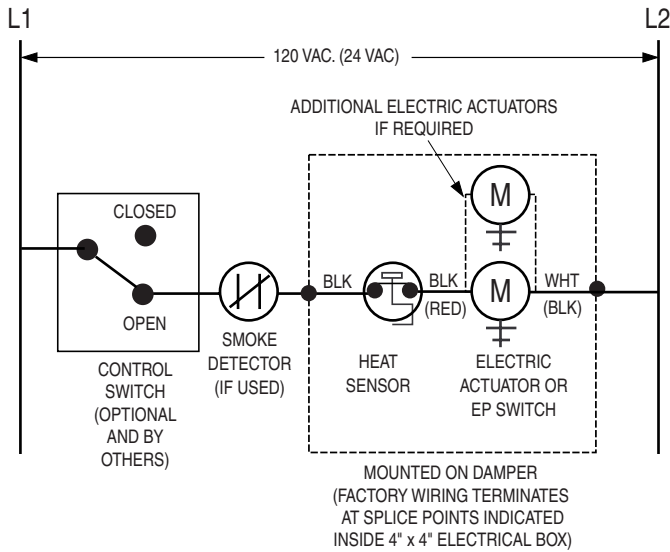

Figure 1. ERL Wiring
- One of the above connections on the top and bottom joints with flat drive slip connections on the side joints may be used for dampers up to 20" (508) in height.
- Duct diameters 22" (559) and smaller must use three #10 sheet metal screws equally spaced around the circumference.
4. **Damper/sleeve attachment:** Damper shall be secured to sleeve with 1/4" (6) long welds, 3/16" (4.76) steel rivets, 1/4" (6.35) dia. bolts and nuts, #8 sheet metal screws, or 3/16" (4.76) dia. buttonloks on both sides at 6" (152) on center and a maximum of 4" (102) from the corners of the damper on all four sides. For field assembled sleeves, the inner dimensions of the sleeve shall be equal to the outer dimensions of the damper. All joints between the damper and the sleeve shall be sealed with Dow-Corning 732 or G.E. RTV108 silicone sealant on one side only.
5. **Inner Retaining angles** shall be a minimum of 1 1/2" x 1 1/2" x 16 gauge (38 x 38 x 1.61). Secure the retaining angles to the sleeve with 1/2" (12.7) long welds, 1/4" (6.35) dia. bolts and nuts, 3/16" (4.76) dia. steel rivets or #8 sheet metal screws 8" (203) on center and 2" (51) maximum from corner of sleeve on all four sides. The retaining angles must lap the structural opening by 1" (25.4) minimum. Where the sleeve terminates at the wall, 2" (51) wide mounting angle tabs with a 3/4" (19) flange are fastened to the sleeve. Mounting tabs may be installed on top and bottom, or sides, or a combination of both. A steel grille frame with a minimum 1" (25) flange is then fastened to the mounting angle tabs with sheet metal screws.
- ERL (Electric Resettable Link):** Dampers are supplied with an electric thermostat-type temperature responsive device as standard. Refer to Figure 1 for wiring of the ERL. If dampers are ordered with a pneumatic actuator and ERL, an EP switch is required with an appropriate electric power circuit to allow the ERL to control the pneumatic actuator.